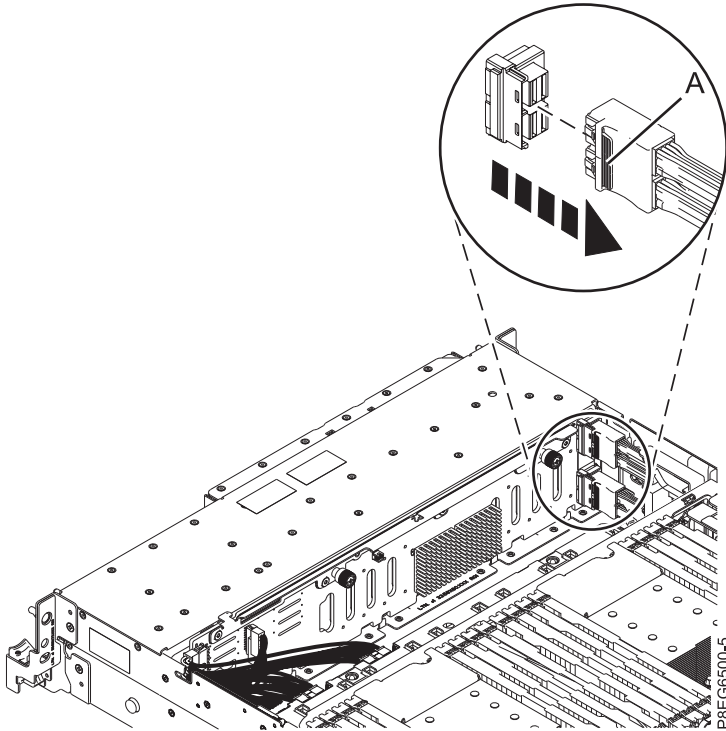

Figure 1. Unplugging the front SAS cables
6. Press the connector latch (A) and unplug the front SAS cables that are connected to the SAS RAID adapter identified in step 5 from the disk drive backplane. Leave the other end of these cables plugged in to the SAS RAID adapter until directed to unplug them. See Figure 1 on page 4.